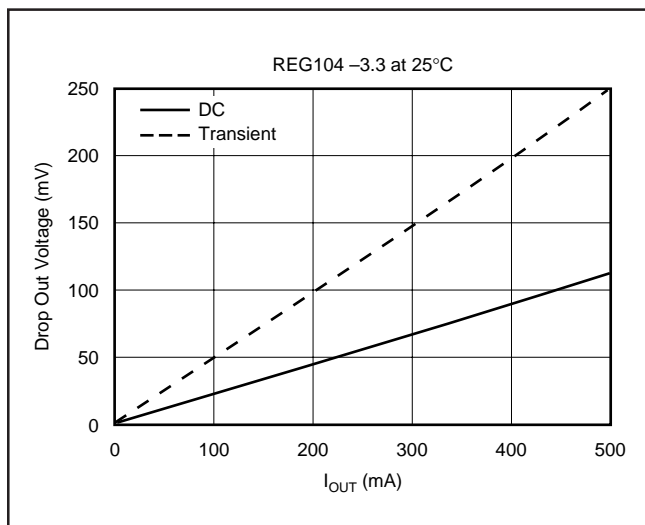

FIGURE 8. Transient and DC Dropout.
The REG104 uses an N-channel DMOS as the *pass* element. When the input voltage is within a few hundred millivolts of the output voltage, the DMOS device behaves like a resistor. Therefore, for low values of V_{IN} to V_{OUT} , the regulator's input-to-output resistance is the R_{dsON} of the DMOS pass element (typically 230m Ω). For static (DC) loads, the REG104 will typically maintain regulation down to V_{IN} to V_{OUT} voltage drop of 230mV at full rated output current. In Figure 8, the bottom line (DC dropout) shows the minimum V_{IN} to V_{OUT} voltage drop required to prevent dropout under DC load conditions.
For large step changes in load current, the REG104 requires a larger voltage drop across it to avoid degraded transient response. The boundary of this *transient dropout* region is shown as the top line in Figure 8. Values of V_{IN} to V_{OUT} voltage drop above this line insure normal transient response.